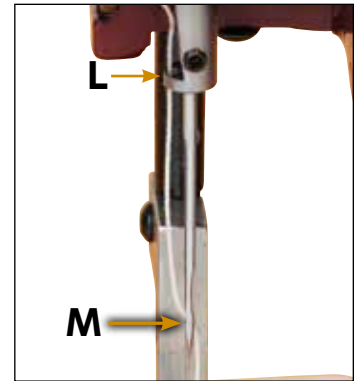

Figure 10
- 6) Run thread through the bottom of your Needle Bar **(L)** and your Needle **(M)**. **(Figure 10)**